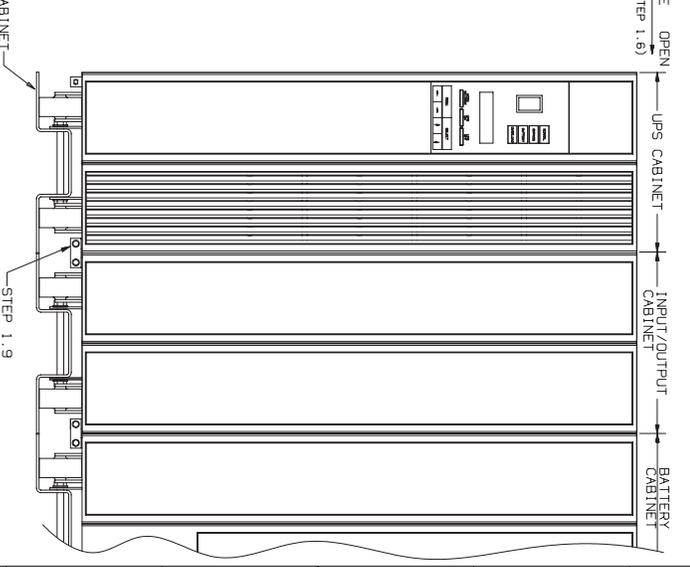

FIGURE 3
- 1.4B REMOVE COVER FROM THE FRONT OF THE UPS AND INPUT/OUTPUT CABINET AS SHOWN IN FIGURE 3. (2) SCREWS LOCATED ON THE TOP REAR OF EACH CABINET SHOULD BE REMOVED. THE COVER OF THE UPS AND INPUT/OUTPUT CABINET AS SHOWN IN FIGURE 3. REMOVE THE TOP COVERS FROM THE BATTERY AND INPUT/OUTPUT CABINETS BY REMOVING THE SCREWS LOCATED ON THE TOP REAR OF THE UNIT TO RELEASE COVER LATCH AND LIFT THE COVER OFF OF THE CABINET.